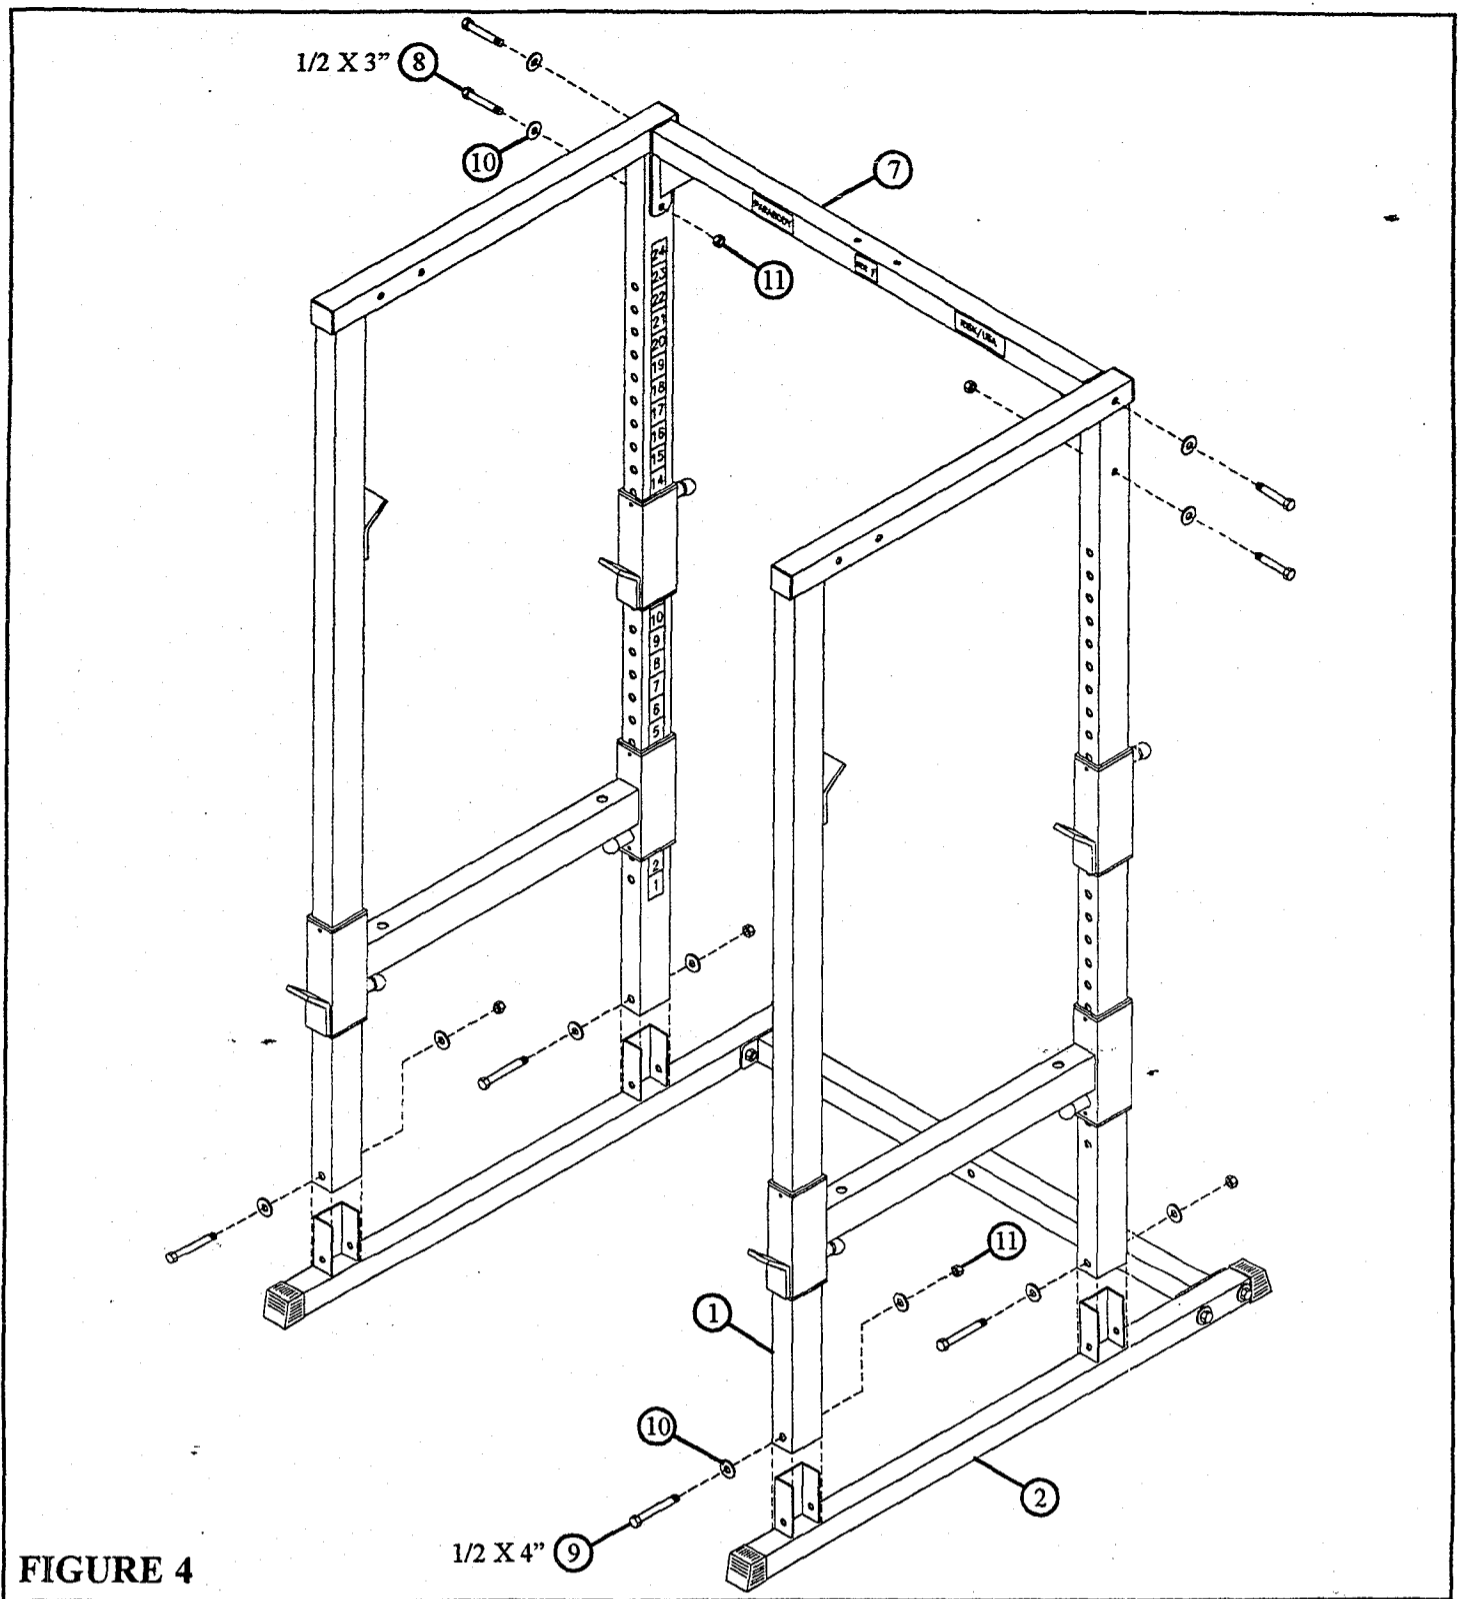

**FIGURE 3**
- Insert four 2" SQ. END CAPS (13) into the ends of the UPRIGHTS (1) as shown in FIGURE 3.
- Slide one BAR SUPPORT (4) and one SAFETY RAIL (3) (IN THAT ORDER) onto each UPRIGHT (1). Pull back on the SPRING PIN ASSEMBLIES until they pop into holes.